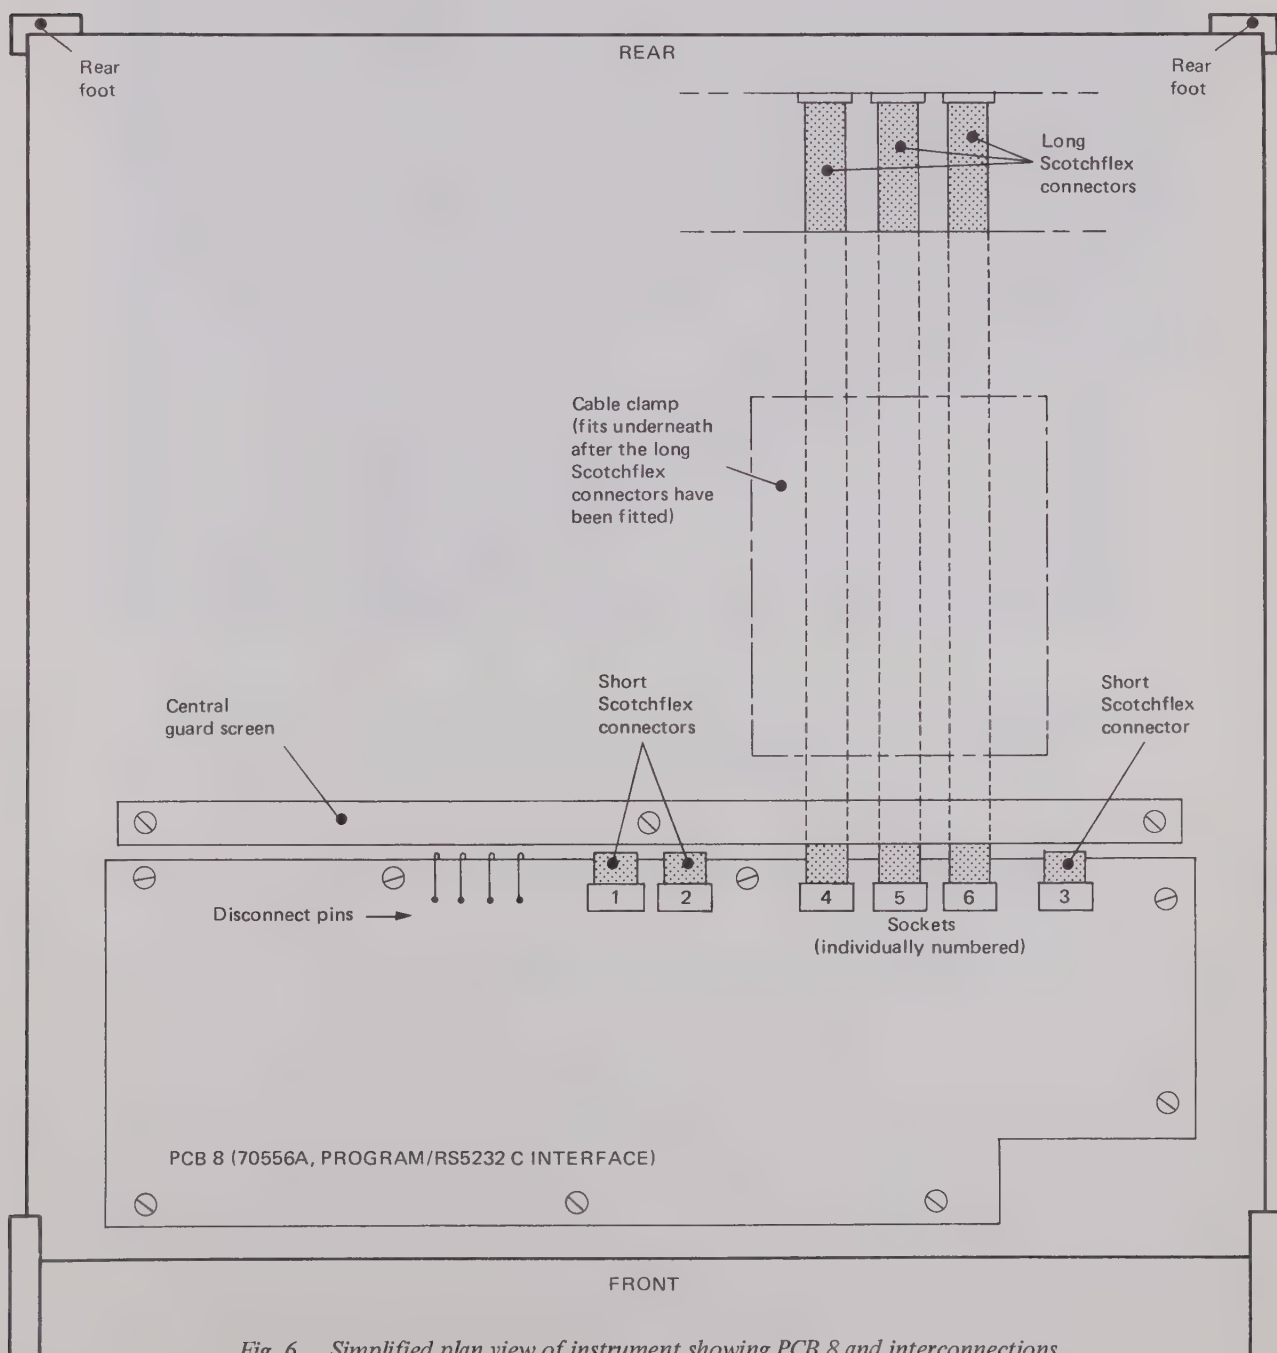

Fig. 6 Simplified plan view of instrument showing PCB 8 and interconnections
11. See Fig. 6 to verify that pcb 8 has been correctly connected.